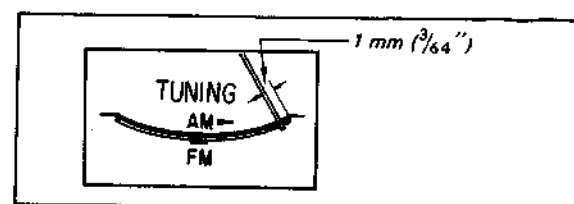
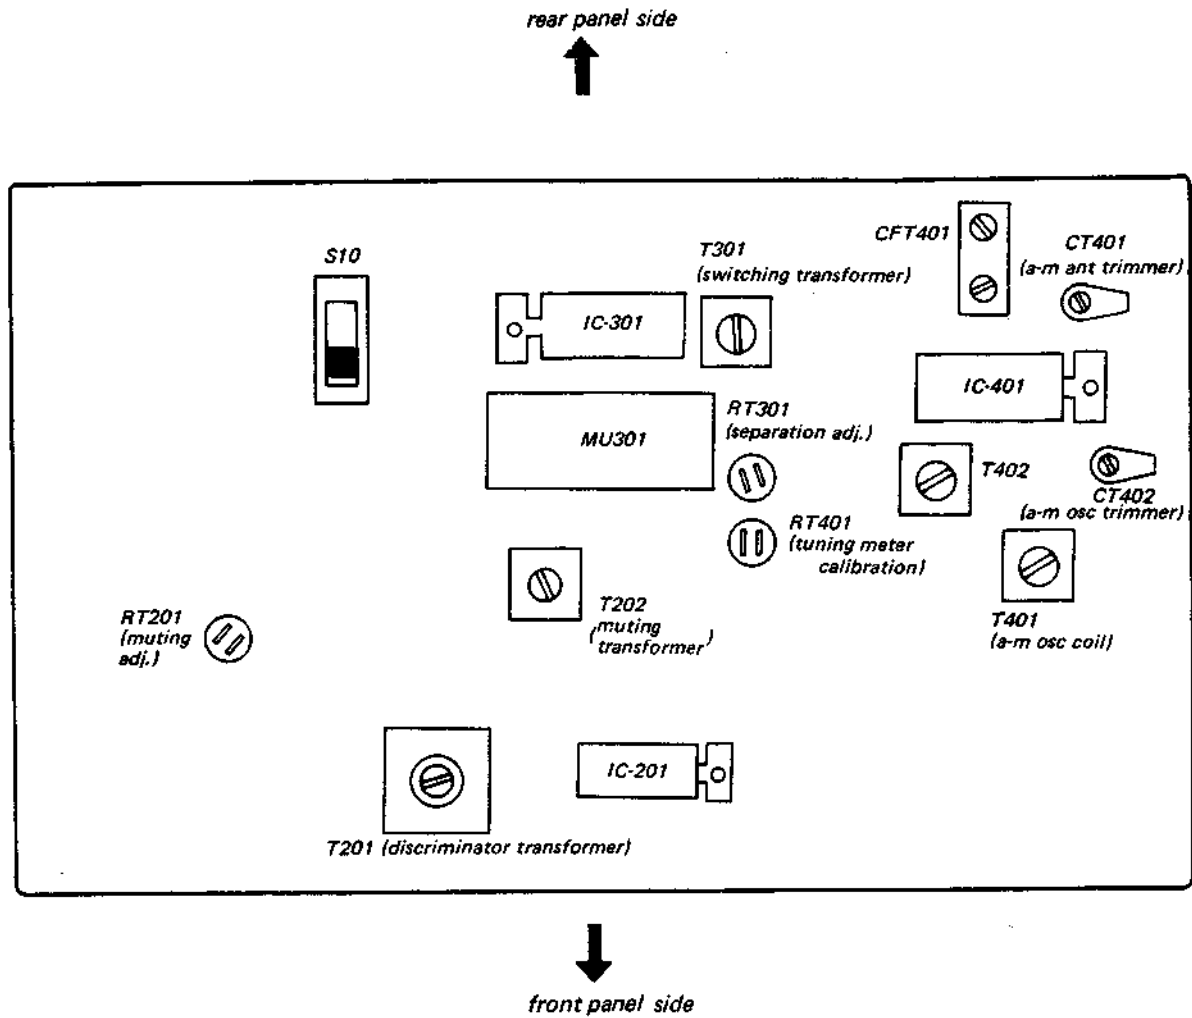

Fig. 3-9. TUNING meter calibration
Fig. 3-10. Adjustment parts location
1. Precisely tune the receiver to the carrier frequency of stereo signal generator, then turn the top core of switching transformer T301 (See Fig. 3-10) to obtain maximum output at the left channel. Note that this adjustment has a close relationship with stereo distortion.
4. The output-level to residual-level ratio represents the separation. Adjust separation adj. control RT301 (See Fig. 3-10) for minimum residual level. Check the right channel for separation. Usually, about an 8 to 9 dB difference in channel separation exists. Readjust RT301 for minimum difference between left- and right-channel separation. While doing this, remember that the output level also changes according to the setting of RT301.
1. Turn RT201 (See Fig. 3-10) fully clockwise.
(See Fig. 3-10) for proper muting operation. Muting should begin at point equidistant from zero center.
Precisely tune the receiver to the signal and adjust RT401 (See Fig. 3-10) to obtain the meter pointer within 1 mm ($\frac{3}{64}$ "') left of its maximum indication as shown in Fig. 3-9.